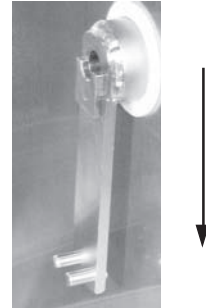

Fig. 58
1. Open front door. Remove rotor. Make sure drive arm is in the downward position (Fig. 58).